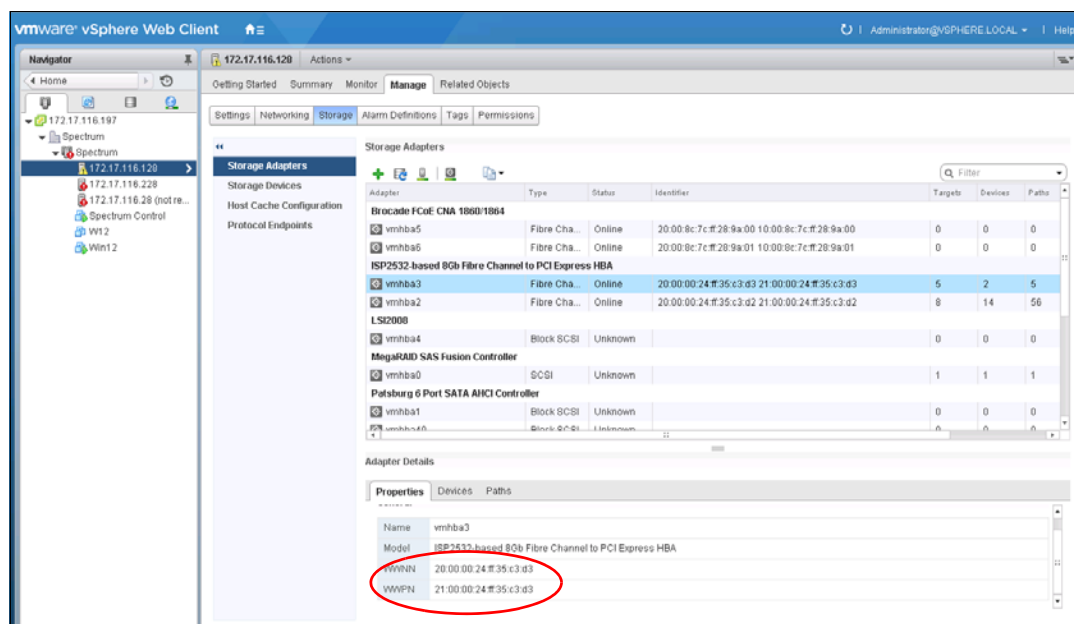

Figure 5-17 Show WWPNs in VMware ESXi
3. Click **Storage Adapters**, and scroll down to your FC HBAs (Figure 5-17). Document the WWPNs of the installed adapters for later use.